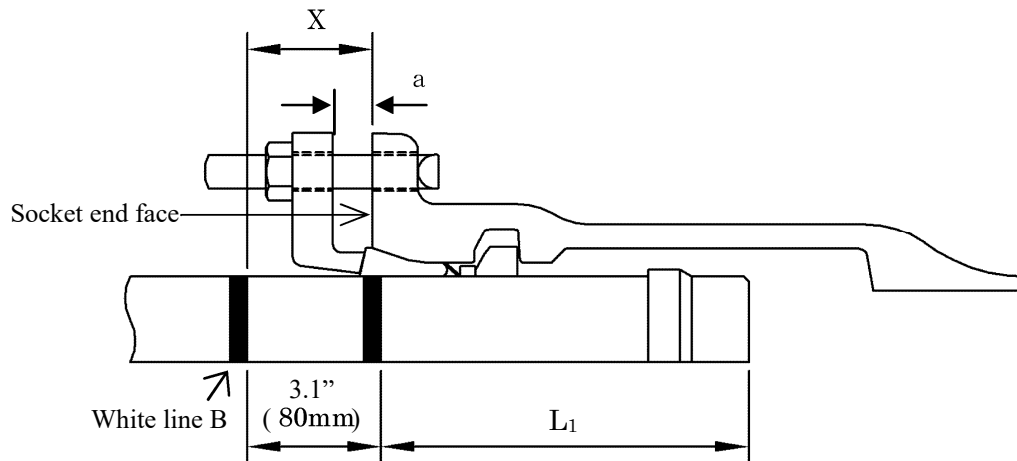

Figure 22 Measurement of clearance between socket end face and gland, and clearance between socket end face and white line
(1) Checking for uniform tightening of bolts and nuts
- ① As illustrated in Figure 22, measure the clearance between the gland and socket end face at four locations, and make sure that the difference between the maximum and minimum values does not exceed 0.2" (5 mm).
- ② If the difference between the maximum and minimum values on the same circumference in ① exceeds 0.2" (5 mm), disassemble, inspect and check the joint. Then make the parts joined again. In this case, replace the rubber gaskets and back-up rings by new ones.
(2) Checking the clearance from socket end face to white line